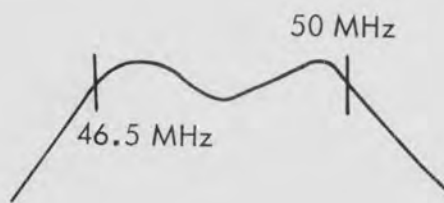

Figure 5-12. Response No. 2
- (3) Switch the attenuator to 23 dB and adjust C3, C8, and C12 for the response shown in figure 5-12.